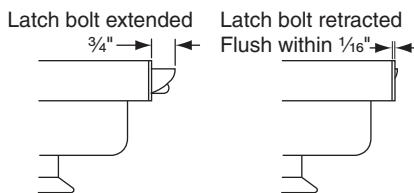

Figure 1
2. Depress pushbar and make sure latch bolt retracts and extends fully (see Figure 1).
2. Depress pushbar and make sure latch bolt retracts and extends fully (see Figure 1). If latch bolt does not retract or extend fully, adjustment may be required per the device installation instructions.
4. Check latch bolt(s) for full retraction (must clear strike, see Figure 1).
5. Release solenoid and check latch bolt extension (see Figure 1)